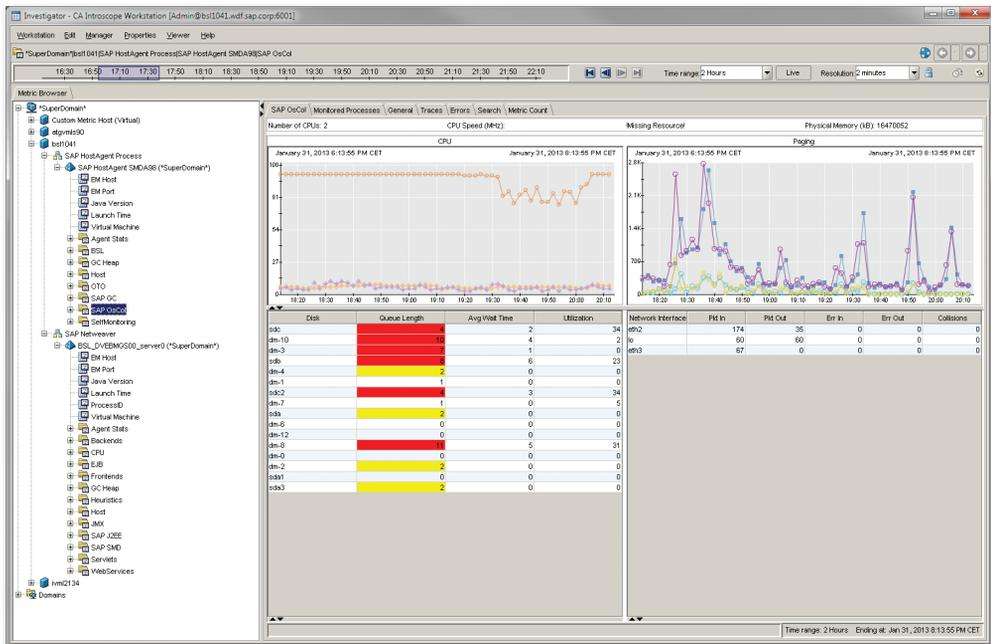

Figure 4.10 Introscope in Investigator Mode
- Switch from console mode to investigator mode by calling `WORKSTATION • NEW INVESTIGATOR` from the menu. In Introscope WebView, the investigator is located in the upper navigation area. The investigator is divided into three areas (see Figure 4.10):